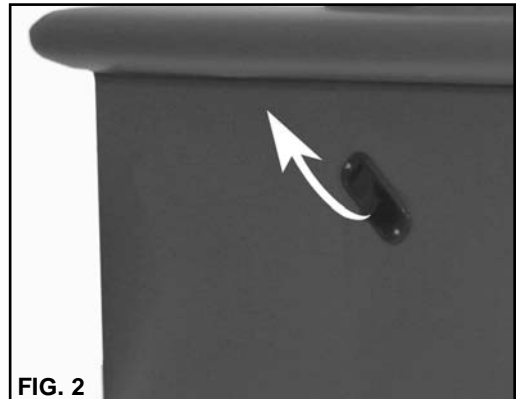
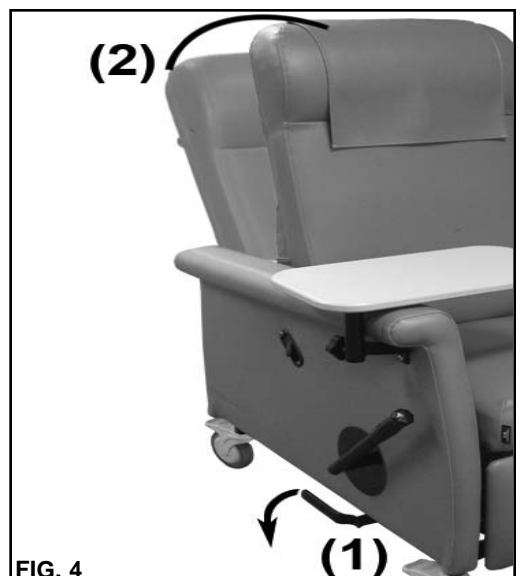

FIG. 2
FIG. 4
3. **TRENDELEBURG** (or lowering the back farther than the positions specified in the above steps) **CAN ONLY BE PERFORMED BY AN ATTENDANT.** **(FIG. 4, #1 & #2)**
To LOWER the Back into the Trendelenburg position: Recline the chair to full recline; Depress the Foot Lever **(FIG. 4, #1)** and continue to push Back down to the Trendelenburg position. **(FIG. 4, #2)**
4. To RAISE the chair Back upwards from Trendelenburg: Pull up on the back. **(FIG. 4, #2)** For further upward adjustment, pull out on either Back Release Handle **(FIG. 2 or 3)** until the desired position is reached, or until chair back is fully upright.